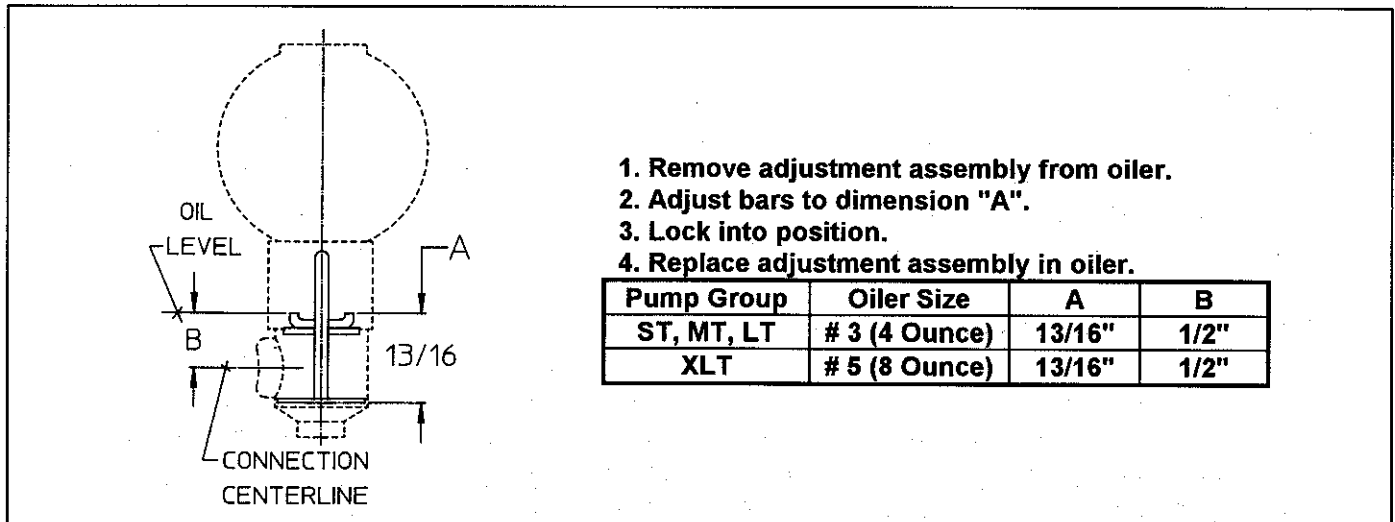

FIGURE 6. OIL LUBRICATED BEARINGS
a. Lubrication- Pump bearings are normally oil lubricated. **(THE BEARINGS ARE NOT LUBRICATED AT THE FACTORY.)** These pumps are supplied with an oiler which maintains a constant oil level in the bearing frame. Locate oiler as shown on the outline drawings supplied for the unit. For correct adjustment of oiler see Fig. 6